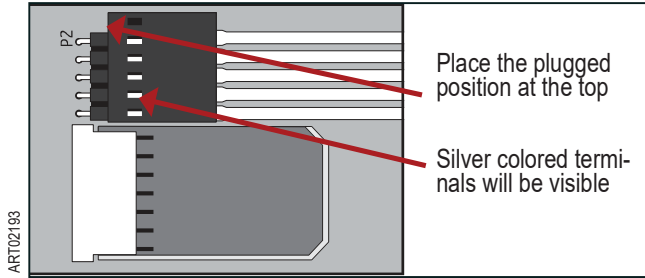

Fig. 11 Insert the black connector display overlay
- Insert the black connector of display overlay to the connector of the P2 of display board. Refer to Fig. 11.